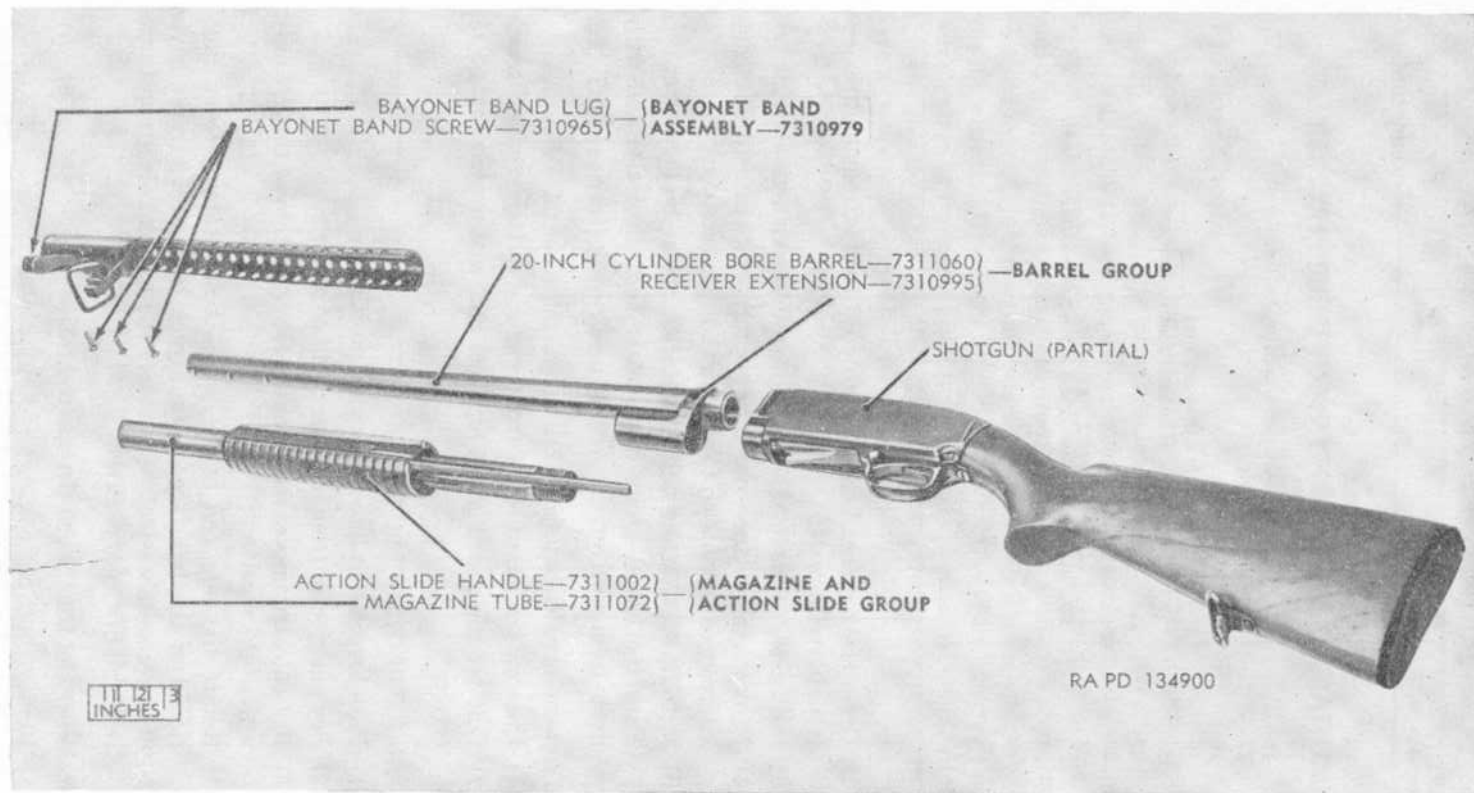

Figure 16. Muzzle end of Winchester M12—partially exploded view.
a. *Bayonet Band Assembly and Barrel and Magazine and Action Slide Groups* (fig. 16).
- (1) Unscrew and remove the three bayonet band screws.